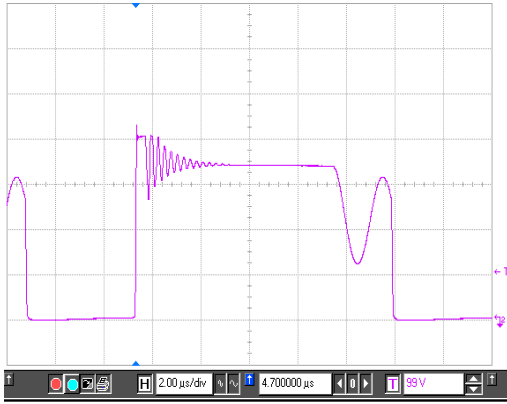

Figure 47. Typical Drain Voltage Waveform of a Flyback Main Switch
- In a single stage converter, one FET processes all the power – that is both a benefit and a limitation as the stress on that main MOSFET is relatively higher. Similarly, the magnetic component (flyback transformer/inductor) can not be optimized as well as in the 2–stage solution. As a result, potentially higher leakage inductance induces higher voltage spikes (like the one shown in Figure 47) on the MOSFET drain. This may require a MOSFET with a higher voltage